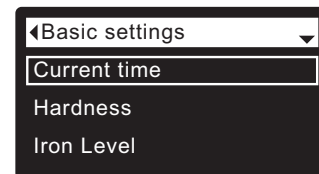

FIG. 51
3. Press the SELECT (O) button to display the Basic settings menu (See Figure 51).
7. Press the SELECT (O) button. The display will go back to the Basic settings menu (Figure 51).